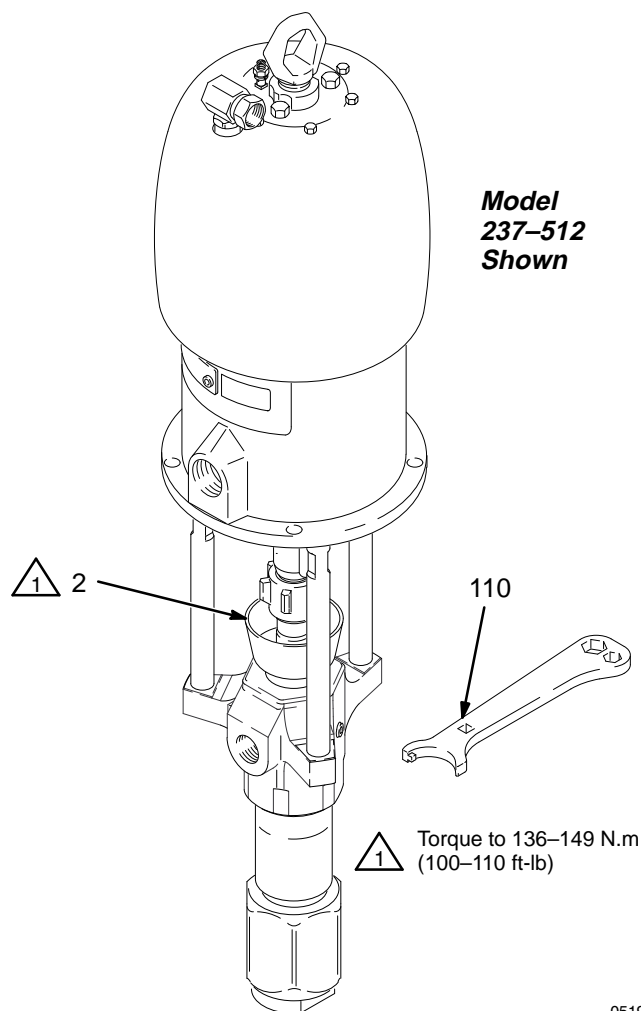

Fig. 3
Before starting, fill the packing nut (2) 1/3 full with Graco Throat Seal Liquid (TSL) or compatible solvent. See Fig. 3.